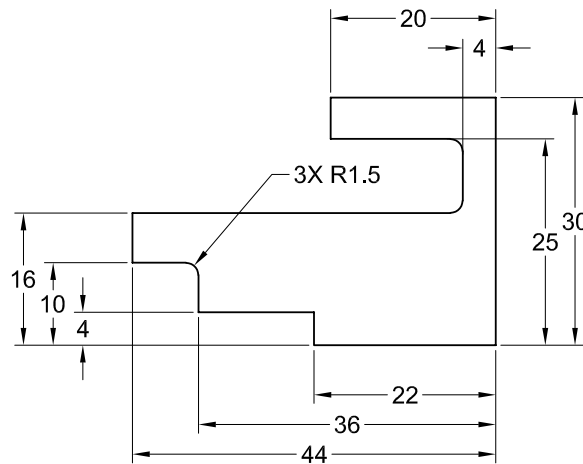
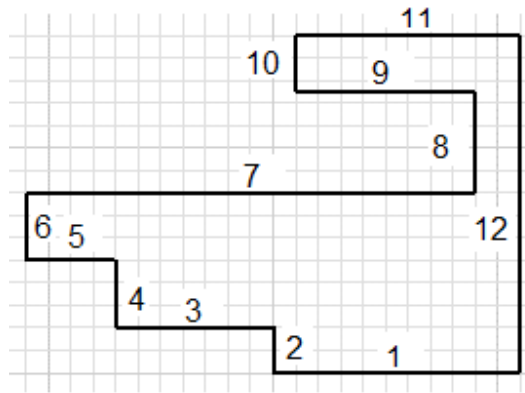

Figure 3-53 Sketch for Tutorial 2
Figure 3-54 Lines numbered in the sketch
In this tutorial, you will draw the sketch shown in Figure 3-53. This sketch is the same as the one drawn in Tutorial 4 of Chapter 2. After drawing it, you will apply the required constraints and dimensions to fully constrain it.
- Invoke the Sketching environment and draw the initial sketch by using the **Line** tool, refer to Figure 3-54.
1. Draw the initial sketch, as shown in Figure 3-54, using the **Line** tool. The lines in the sketch are numbered for your reference.
The dimensions shown in Figure 3-53 are linear dimensions. As the sketch is for a revolved feature, you need to add linear diameter dimensions to it. It is recommended that you first apply all the dimensions and then add fillets to the sketch. This is because the size of a sketch generally changes after dimensioning. Before adding dimensions to a revolved section, it is important to determine which line segment of the sketch will act as the axis for revolving the sketch. If you refer to Figure 3-54, you will notice that line 1 acts as the axis to revolve the sketch for the model. Therefore, while applying linear diameter dimensions, line 1 should be selected first.
Figure 3-53 shows the value to be specified as 4 because the linear diameter dimensions are placed twice.